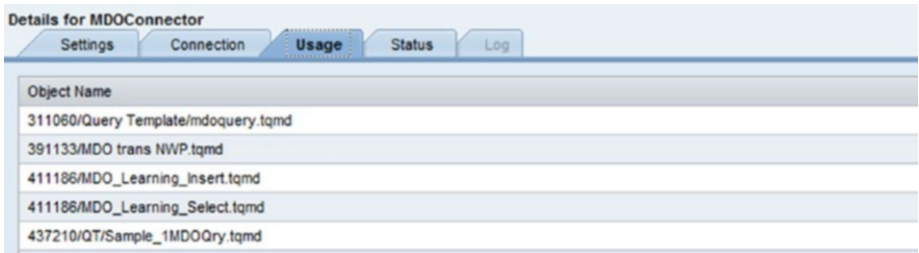

Figure 3-6. Usage check in the data server
6. Once the data server is selected from the list, details of the connector will be shown and the Usage tab denotes the object names of SAP MII Workbench where the connector is used. See Figure 3-6.